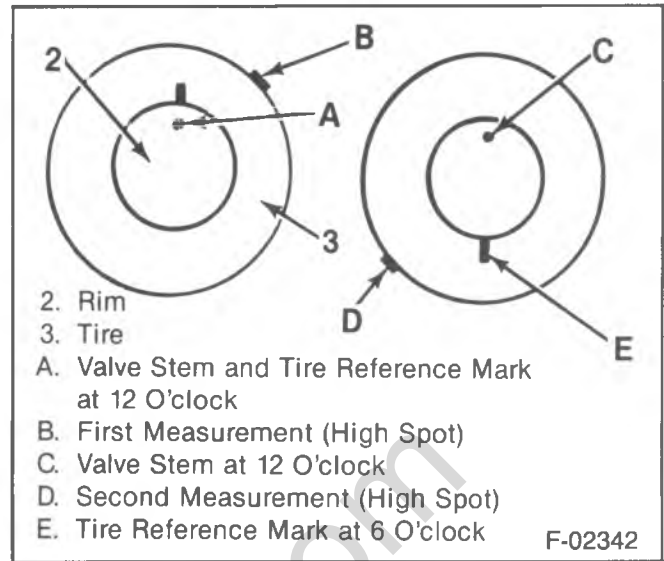

Figure 5—Tire to Wheel Vectoring—Excessive Runout
- If the clock position of the high spot is 6 hours from the original high spot, the tire is the major contributor to the runout problem (figure 5).